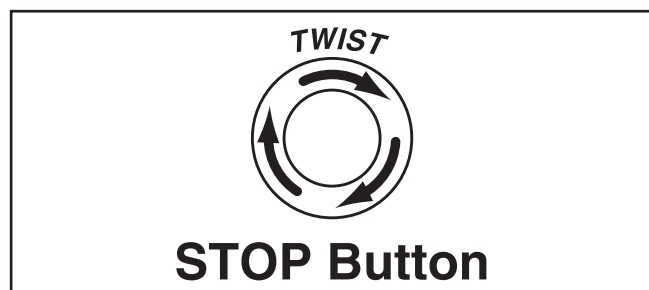

Figure 21. Resetting the switch.
4. Twist STOP button clockwise until it springs out (see **Figure 21**). This resets the switch so the machine can start.